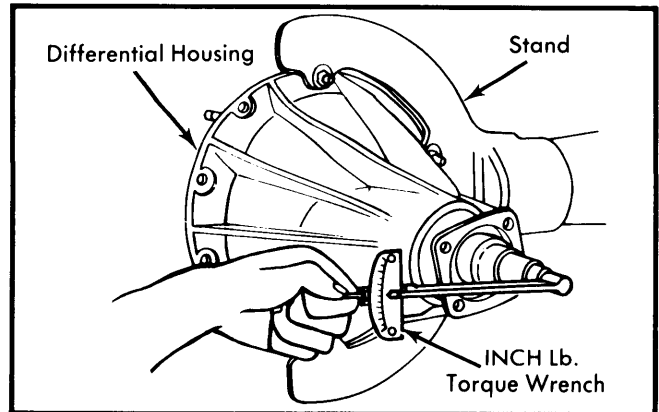

Fig. 9 Measuring Drive Pinion Preload
6) Check side bearing preload by measuring the amount of rotating torque needed to turn companion flange. See Fig. 9. Check gear tooth contact pattern and correct any problem.